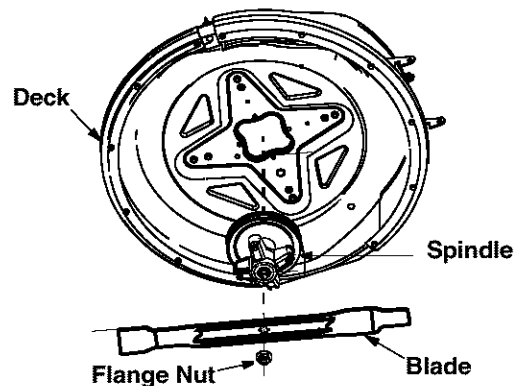

Figure 8
2. Remove blade from the spindle. See Figure 8.
4. Tighten the flange nut securely. See Figure 8.